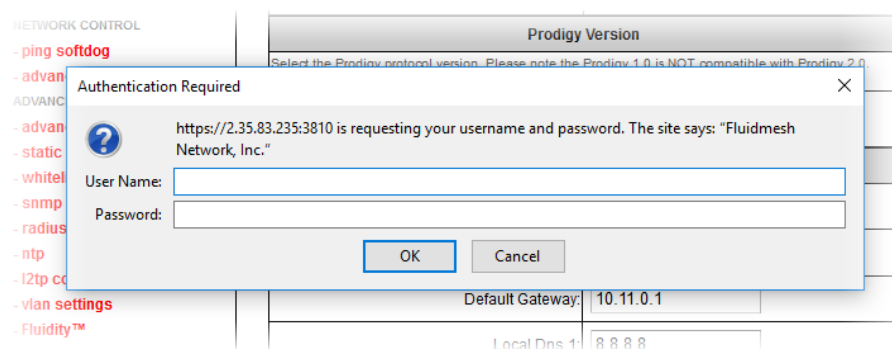

Figure 66. Web browser (Authentication Required dialog)
- The web browser will show the **Authentication Required** dialog (Figure 66 \(page 142\)). If needed, use the dialog to log in again.